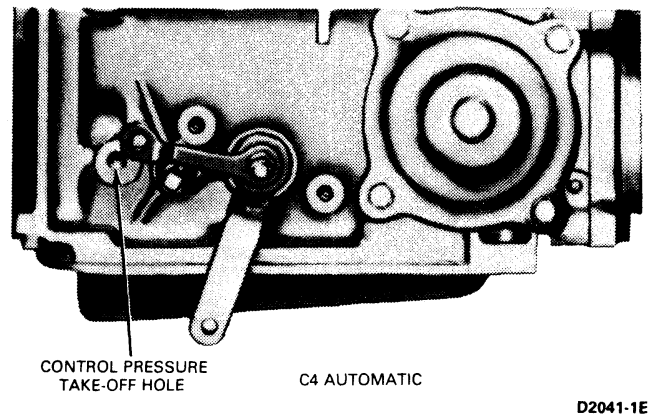

FIG. 7 Typical Vacuum Diaphragm and Control Pressure Connecting Point
2. Attach the pressure gauge to the control pressure outlet at the transmission (Figs. 7 and 8).